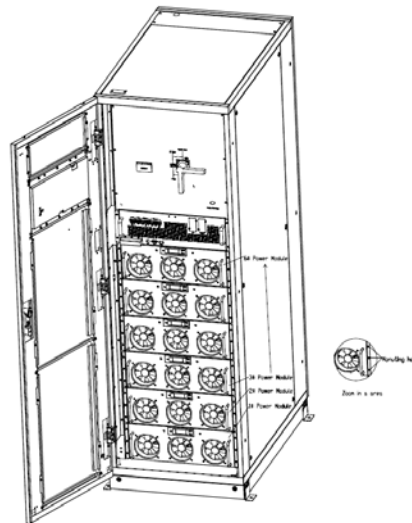

Figure 2-9 Installing power modules
The installation position of power module is shown in Figure 2-9. Please install the power modules from bottom to top to prevent inclination of the cabinet due to high center of gravity. The steps of installing power module are as follows (take the 6-slot cabinet as example):
- 4) Fix the module to the cabinet through the mounting holes on two sides of the front plate of the module, as is shown in Figure 2-9.